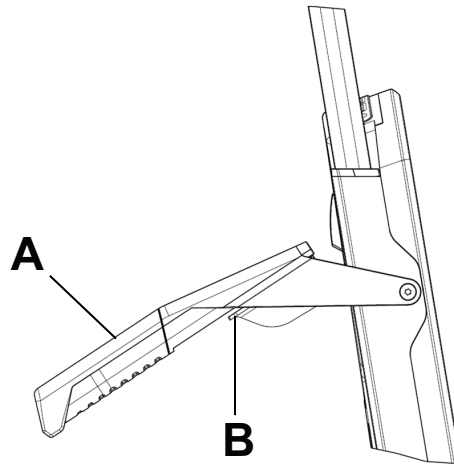

Figure 34 – Lowering the head end flip-up carry handles
1. Lift up on the head end flip-up carry handle (A) (Figure 34).
2. Pull the red handle trigger (B) toward you with your finger (Figure 34).